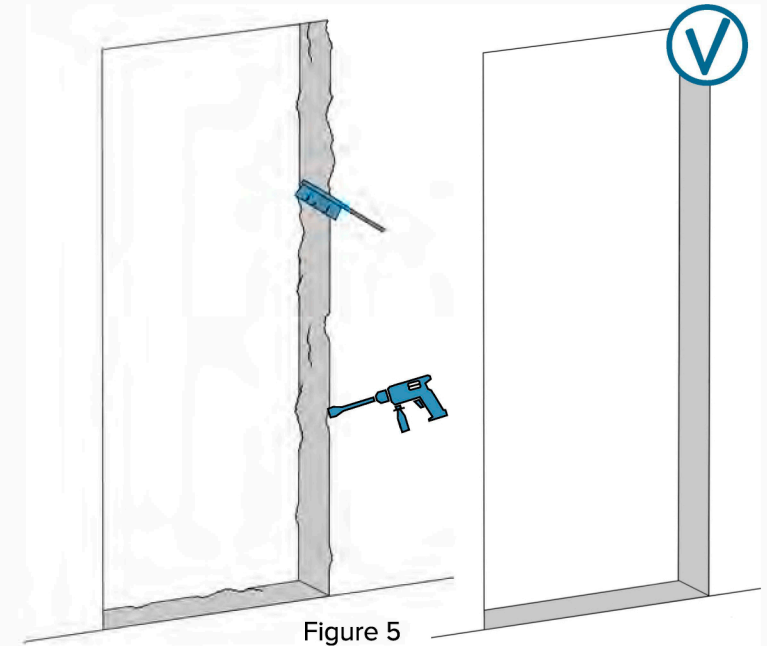

Figure 5
2.6. Clean all surfaces of the doorway from dust, dirt, and oil stains, and – in winter conditions – from snow, ice, hoarfrost, followed by heating the surface (figure 5).